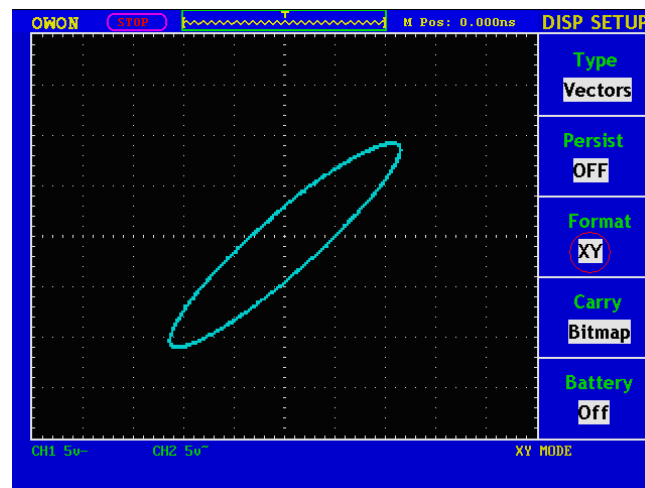

Fig.5-35 Display in XY Format
3. Press **F1** to set Vectors as type, **F2** to set Infinite for persist and **F3** to set XY as Format as shown as Fig. 5-35